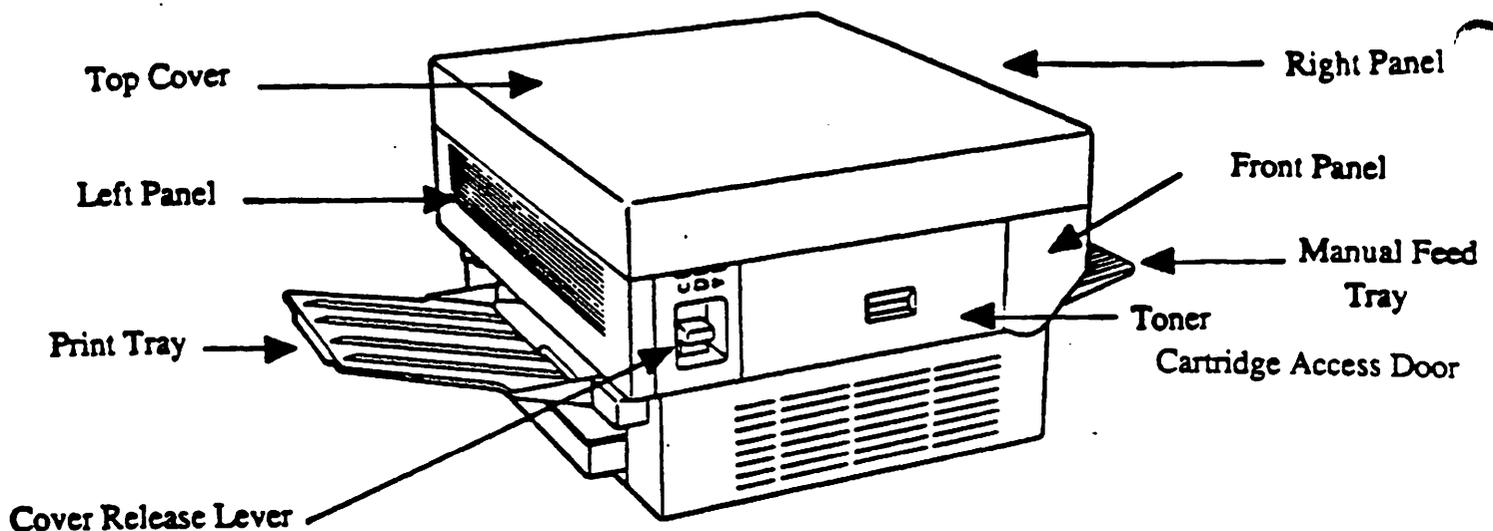

Figure 2-4
A. Top Cover (See Figure 2-4)
B. Front Panel (See Figure 2-4)
C. Right Panel (See Figure 2-4)